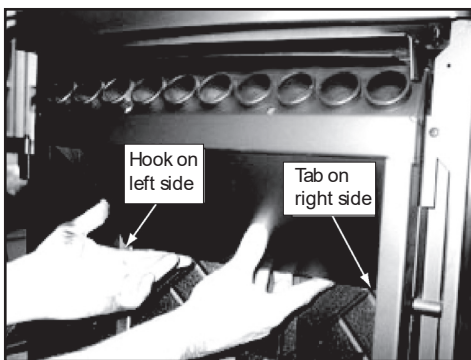

Figure 27.1
2. The top baffle has a hook on the bottom left side that rests on the top lip of the cast brick. There is a tab on the bottom right side that hooks into the side bracket. Remove the top baffle by first pulling the baffle forward until back edge drops down. Then slide baffle back until the front edge clears the shelf that it had been resting on (**Figure 27.1**).